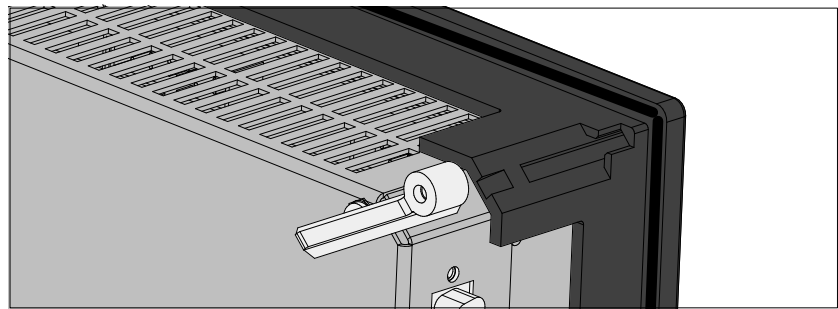

Figure 2-3 Securing Post Before Engaging
4.	Insert the 4 securing posts (see Figure 2-3) into the guides, pushing them until the spring engages.